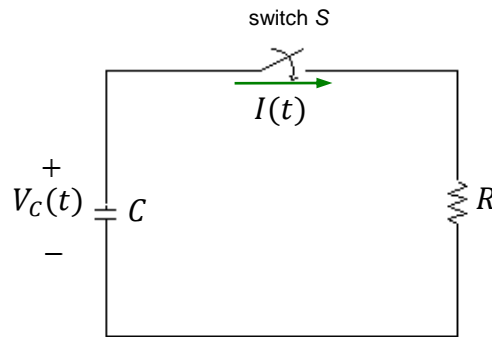

Figure 13
1. In this section of the experiment, you will discharge your capacitor through the resistor on your RC circuit board, as shown in the schematic diagram of Figure 13.